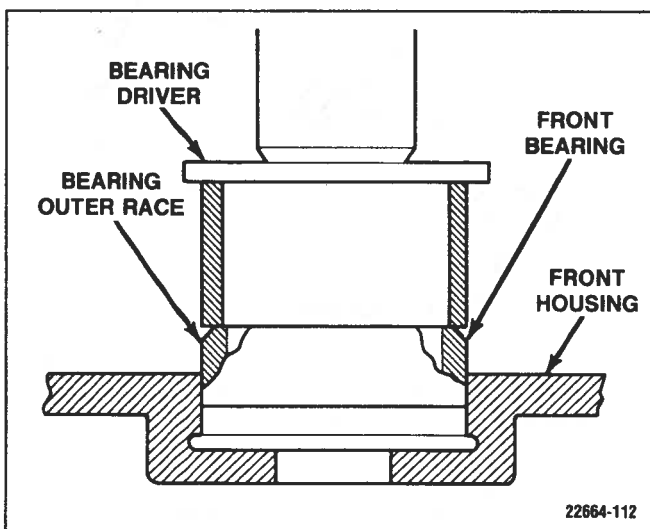

Figure 6-137. Front-Bearing Installation
1. Carefully press the front bearing into the front housing, pushing against the bearing outer race using a bearing driver. Lock the bearing in place with screws. (Figure 6-137)